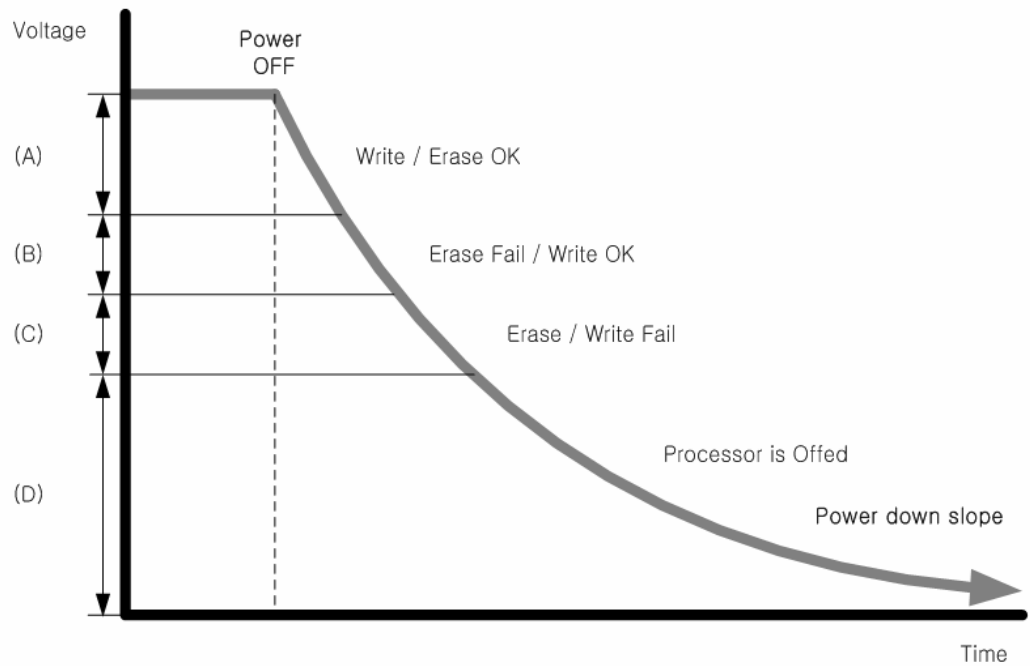

Figure 7-16. Power-off Slope Assumption
Generally NAND block erase operation consumes more electronic current than NAND page write operation. Because of this, power-off slope may cause BML to mistake for block erase error handling. Figure 7-16 shows an example of power-off slope. When power is offed, the voltage goes down to zero with slope. Because of low voltage, NAND block erase and NAND page write operation may fail. If processor's operating voltage threshold is lower than NAND's threshold, and NAND erase operation is issued at (B) area in Figure 7-16, BML will try to replace the block. However the block is not real run-time badblock. In (B) area, block erase operation has failed but page write function is still working. Therefore normal block may be recognized as run-time bad block by BML.